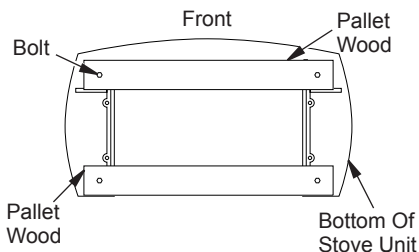

Figure 7 - Removing Pallet Wood From The Bottom Of The Stove
7. Remove remaining pallet wood attached to bottom of stove body (see Figure 7). Use an adjustable wrench to remove bolts.